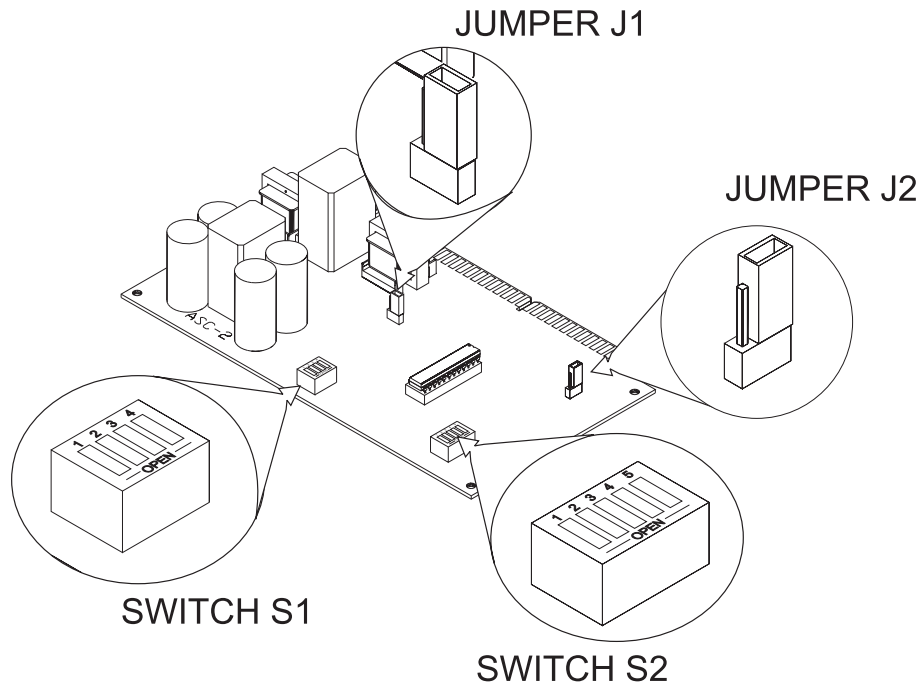

Figure 2
- a. Refer to Figure 2 for the location of S1.
- a. Check the system wiring plan to be certain of amplifier and riser assignments; then set switch S2, dipswitches SW1 and SW2 by following the table above. Refer to Figure 2 for the location of switch S2.
5. Refer to Figure 2 again; note the position of J1 and J2.